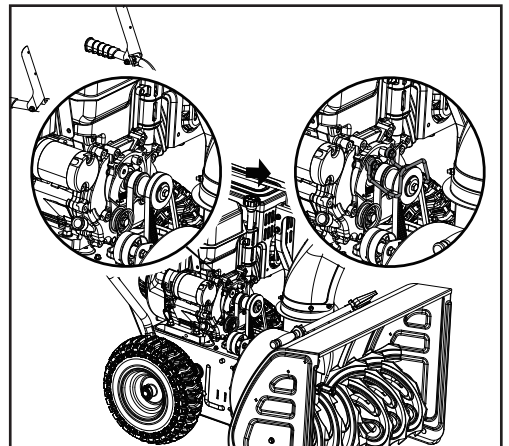

Figure 32
10. Place the belt guard back into place and install the (20 mm/30 mm) bolts that were removed earlier. Once reinstalled, make sure there is equal distance on both sides between the pulley and the guard (Fig. 32).